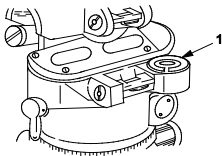

Figure 6. Circular Level Bubble Check.
6. Check the circular level (Figure 6, Item 1). The bubble should be approximately centered. If it is way off, re-adjust legs until bubble is approximately centered.
4. Check the circular level (Figure 6, Item 1). The bubble should be approximately centered. If the bubble moves outside of the circle, re-adjust legs until bubble is approximately centered.